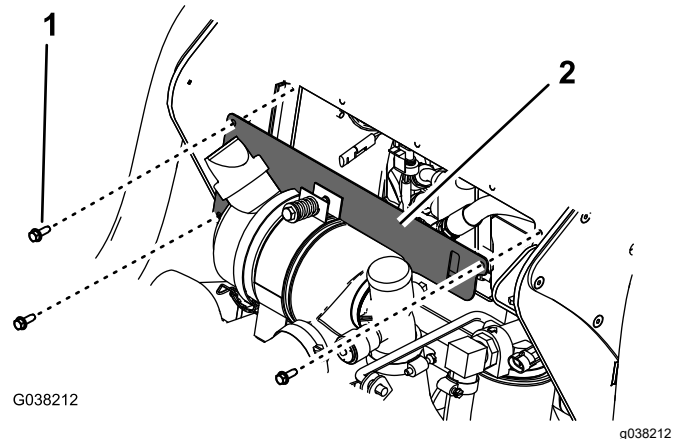

Figure 4
1. Remove the 3 flange-head capscrews (1/4 x 3/4 inch) securing the cover plate front of the control panel frame, and remove the cover plate (Figure 4).